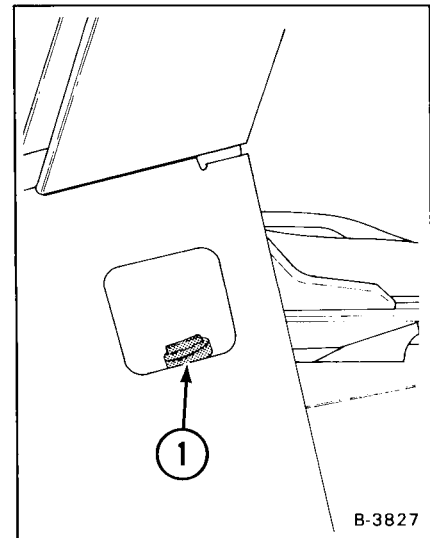

Fig. 1–13 Fuel Fill Location
- (3) Operate the hand pump (Fig. 14, Item 4) until the fuel flows from the vent plug on the top of the fuel filter (Fig. 1–14, Item 3).